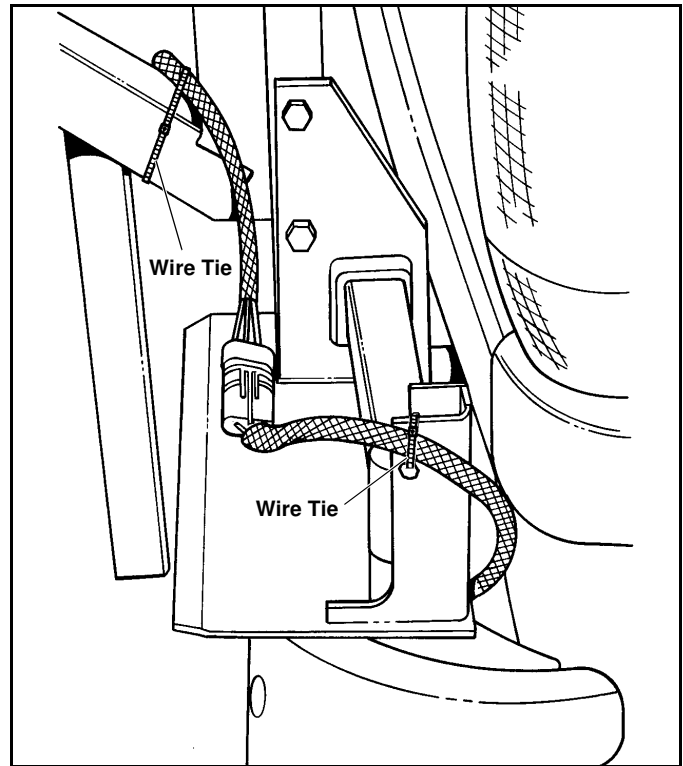

Figure 1-21
20. Route Main Wire Harness around the Pivot Assembly and fasten Main Wire Harness to the outside of the Pivot Assembly with a Plastic Cable Tie. (See Figure 1-21)